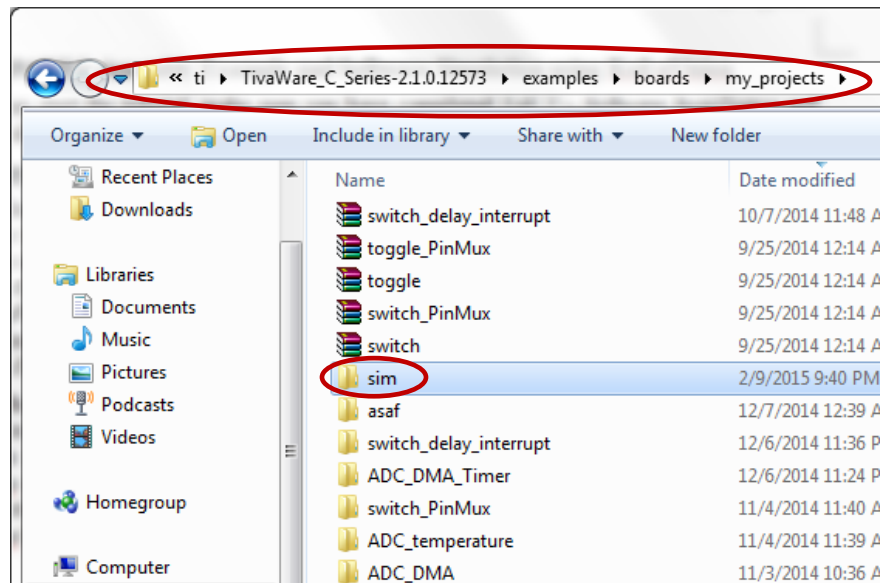

Figure 1
1. Download the project *sim.zip* from iLearn->Labs->Lab3->sim. This is a sample project that calculates the sum, difference, and absolute difference of two 32-bit signed numbers NUM1 and NUM2 and then stores the results in memory. It is assumed that you already install the TivaWare library in C:\ti\TivaWare_C_Series-2.x.x.xxxxx. First create a new directory “my_projects” under C:\ti\TivaWare_C_Series-2.x.x.xxxxx\examples\boards and then save and uncompress the sample project *sim.zip* under “C:\ti\TivaWare_C_Series-2.x.x.xxxxx\examples\boards\my_projects” as shown in Figure 1.